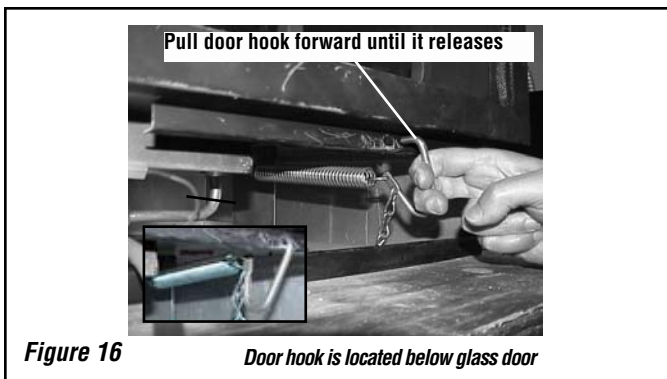

Figure 16
2) Locate the spring hook under the glass door assembly (see **Figure 16**). Pull hook forward until it releases out of the bottom door frame.